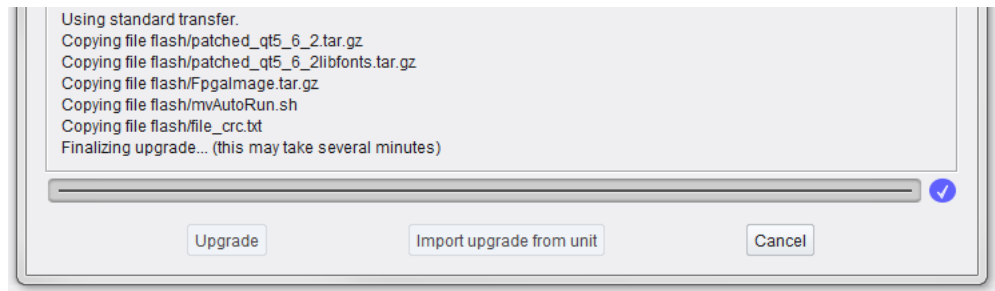

Fig. 10-13: Upgrade Log Messages - In Progress ("Finalizing upgrade" message: Wait)
- 10 While the software upgrade is finalizing (see Figure 10-13), if the MV-8 Series Multiviewer's programmable logic (FPGA) requires upgrading as part of this upgrade package, then this FPGA upgrade is done. It approximately takes a *further* 16 minutes to complete an FPGA upgrade.